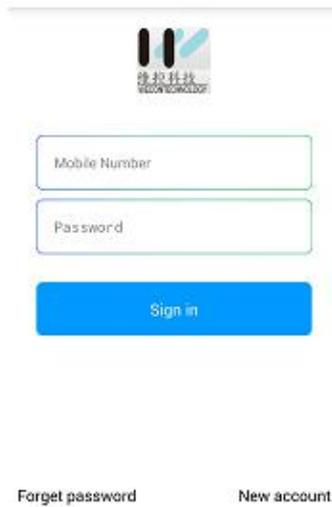

FIG 1
- Running WECON Smart App, as the FIG 1 shows